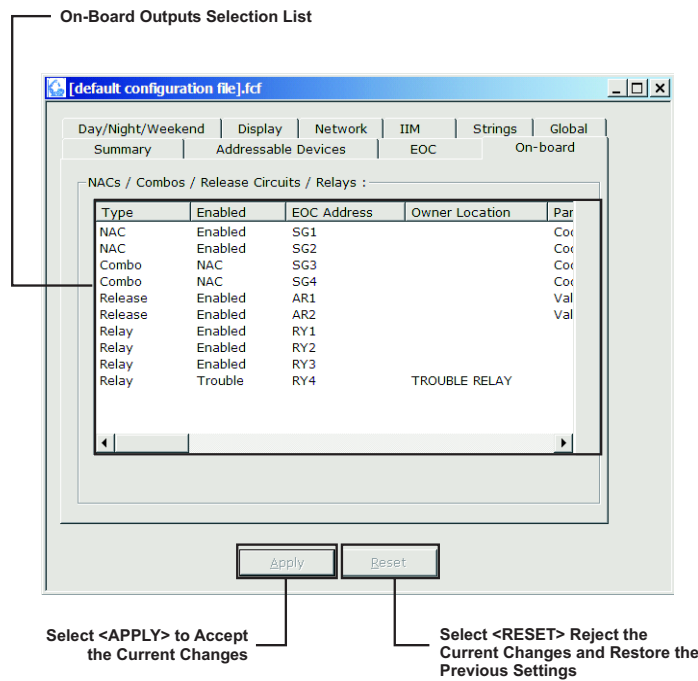

Figure 2-27. Control Unit-Based Outputs Screen
1. Select the "On-Board" tab. Figure 2-27 displays.